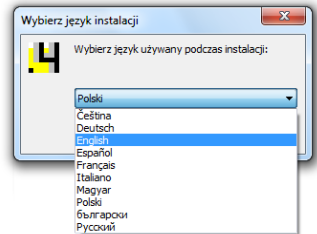

Fig. 36 – language selection
- First of all, the dot4CAD installation wizard will ask to choose the language (Fig. 36);